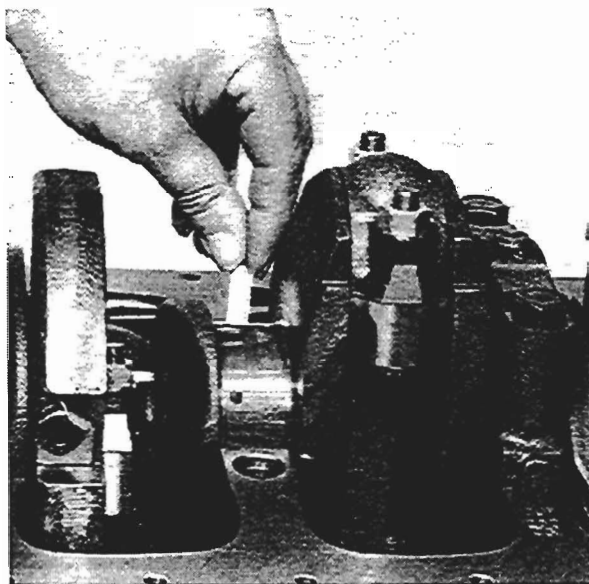

Fig. J1
1. To remove a main bearing, remove its cap. For the rear main bearing cap, see (1) below.
5. With a suitable piece of wood, push out the top half of the bearing (see fig. J1). During this operation, turn the crankshaft in the correct direction and push the bearing on the opposite side to the bearing tag. The bearing tag is on the camshaft side of the engine.